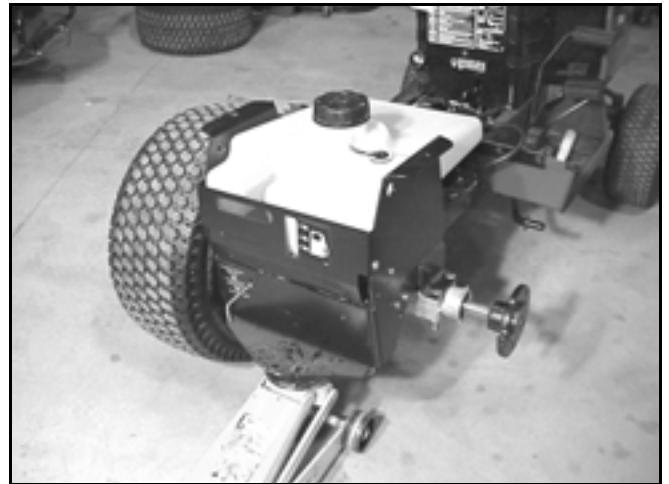

Figure 141
1. Jack-up and support the right rear end of the tractor, allowing enough clearance to remove the right rear tire. Make sure the left tire stays on the ground (Figure 141). (Optional: remove the fender and seat assembly. If they are removed, you will need to temporarily bypass the seat switch.)